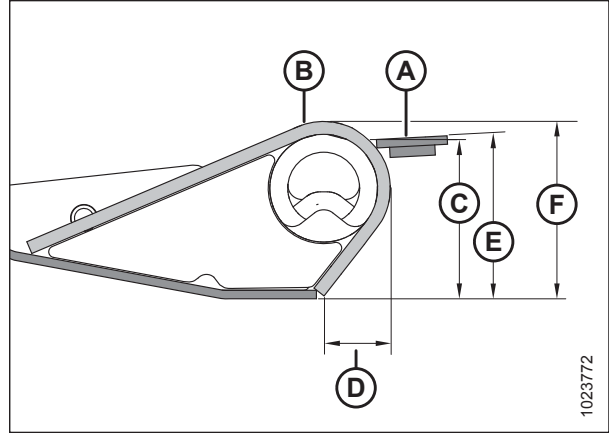

Figure 3.3: Side View of Transition Pan Support Angle with Transition Pan Seal Plate Attached
- Position the new transition pan seal plate with weld nuts (A) along the rear of the transition pan support angle (B). Plate should be on the side away from the pan as shown in Figure 3.3, page 10.